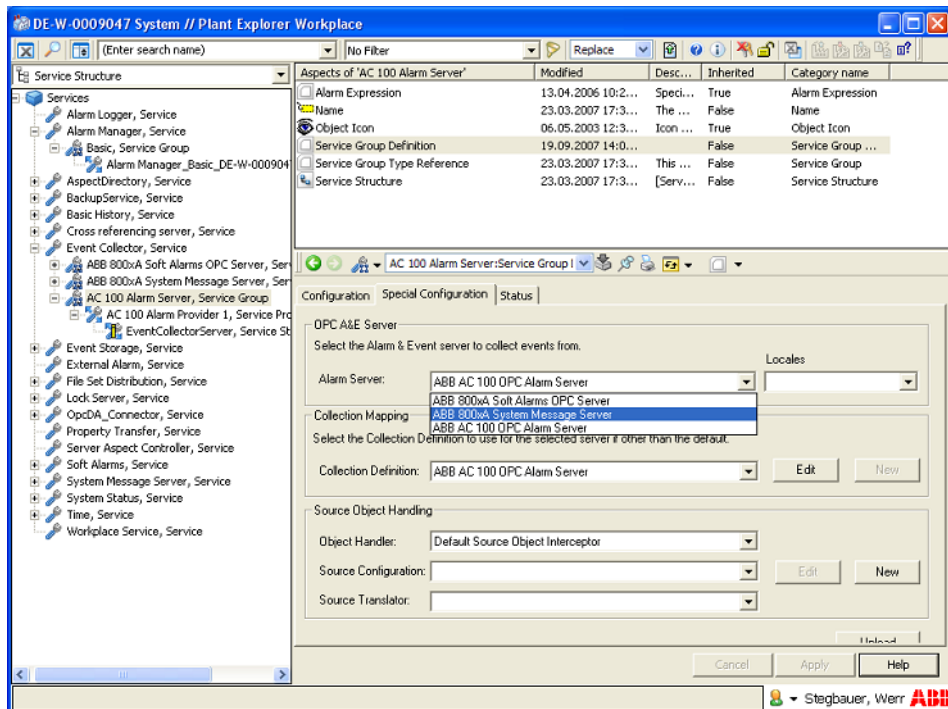

Figure 11. Selecting the Alarm Server
4. In the *Special Configuration* tab, select **ABB AC 100 OPC Alarm Server** as the **Alarm Server** and click **Apply** (see Figure 11).